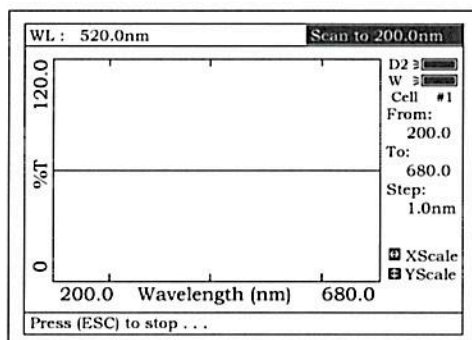

Fig 44
3. Put the blank cuvette into the Reference Light Path and Main Light Path, press **【ZERO】** to scan the base line (Fig 44). Press the key **【ESC/STOP】** to stop scanning;